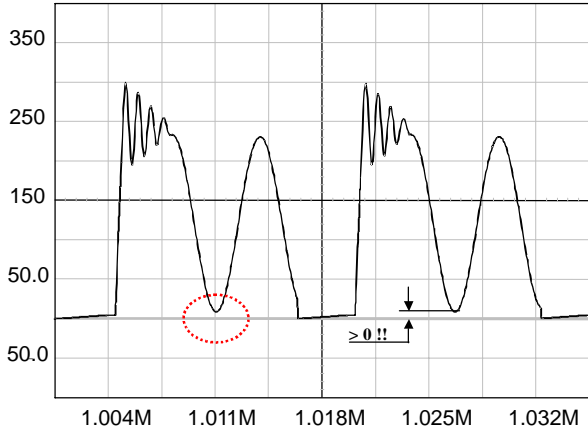

Figure 44. The reflected voltage shall always be greater than the minimum input voltage to avoid the forward biasing of the MOSFET body–diode.
1. The lateral MOSFET body–diode shall never be forward biased, either during startup (because of a large leakage inductance) or in normal operation as shown by Figure 44. This condition sets the maximum voltage that can be reflected during t_{off} .